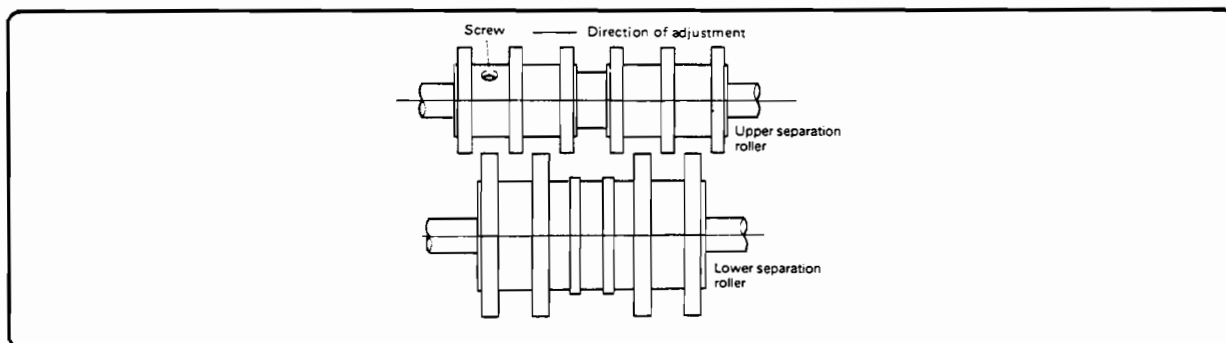

Figure 6-162. Upper Roller Alignment
2. Position the Upper Separation Roller so that the rollers are midway between the rollers of the Lower Separation Roller (Figure 6-162).